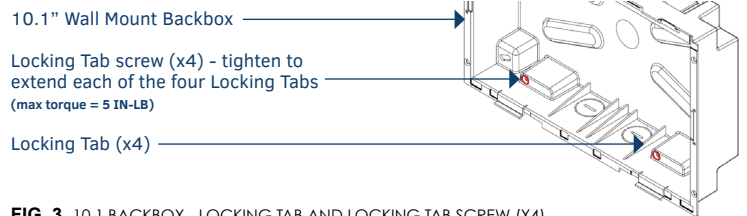

FIG. 3 10.1" BACKBOX - LOCKING TAB AND LOCKING TAB SCREW (X4)
5. Extend the Locking Tabs by tightening the Locking Tab screws until snug (FIG. 3):